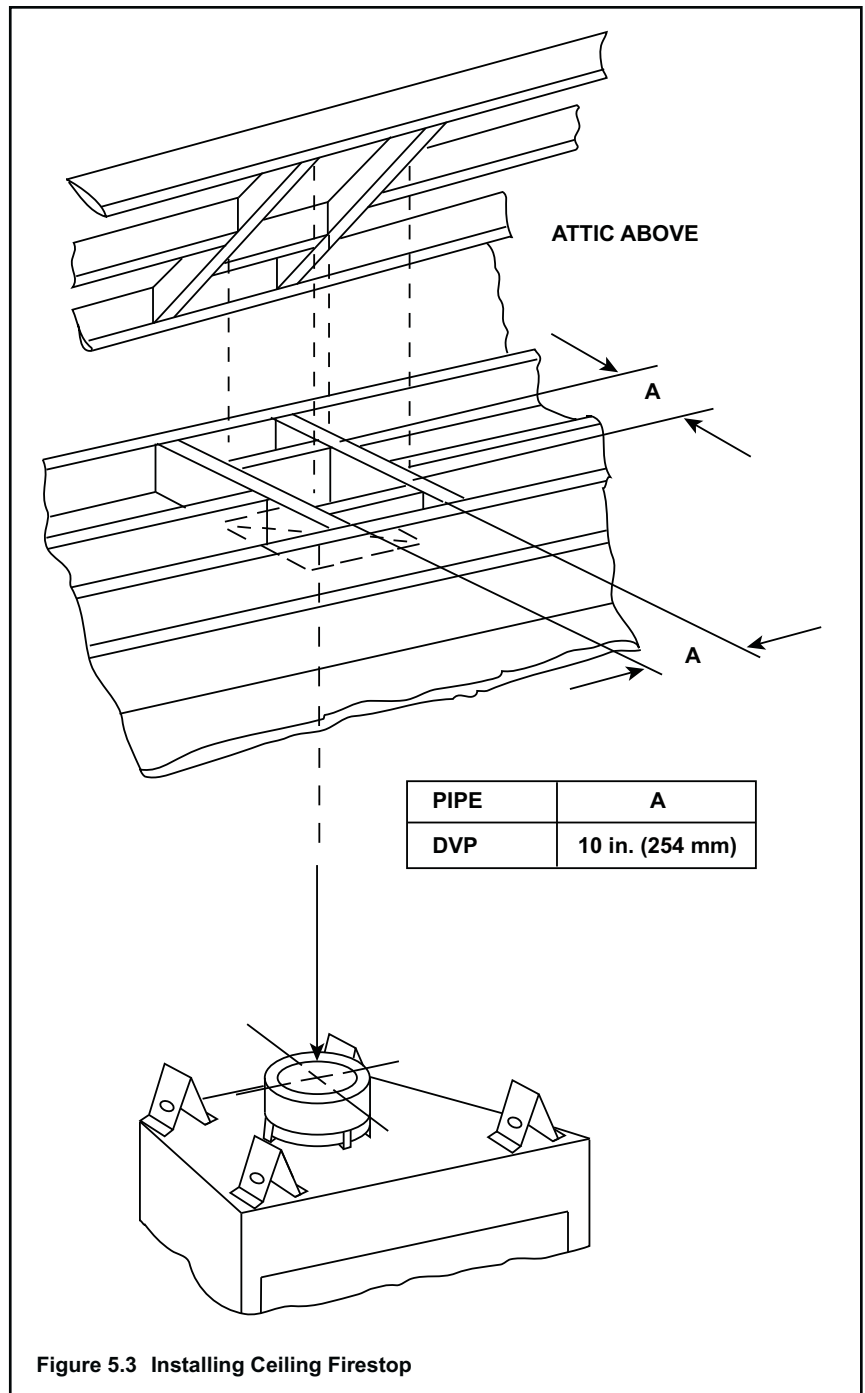

Figure 5.3 Installing Ceiling Firestop
- Frame an opening 10 in. by 10 in. (254 mm by 254 mm) whenever the vent penetrates a ceiling/floor (see Figure 5.3).